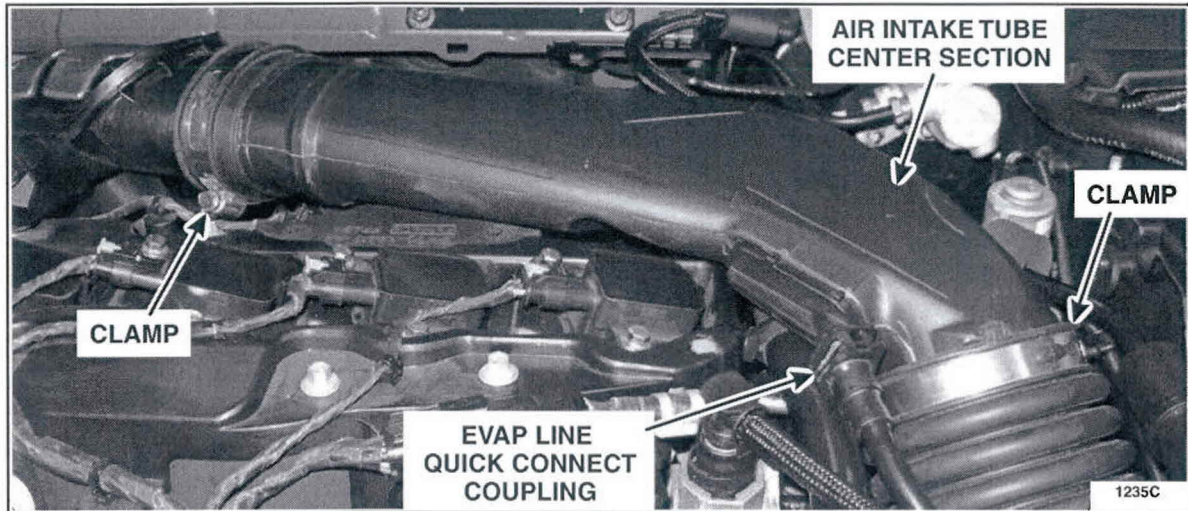

FIGURE 1
3. Disconnect the EVAP line quick connect coupling from the air intake tube center section. Set the clip aside for re-installation to prevent it from falling into the engine compartment. See Figure 1.
4. Loosen the 2 clamps and remove the air intake tube center section. See Figure 1.